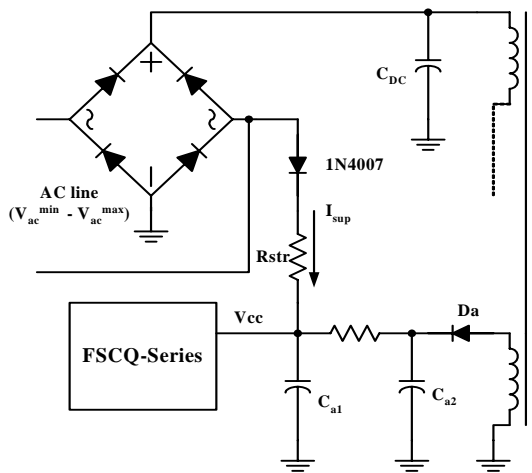
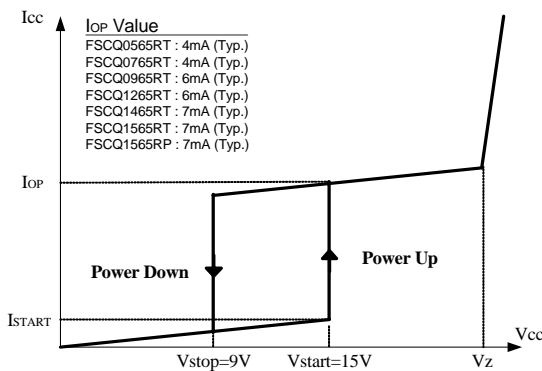

Figure 4. Startup circuit
Figure 5. Relationship Between Operating Supply Current and Vcc Voltage
1. **Startup:** Figure 4 shows the typical startup circuit and the transformer auxiliary winding for the FSCQ-Series. Before the FSCQ-Series begins switching, it consumes only startup current (typically 25uA). The current supplied from the AC line charges the external capacitor (Ca1) that is connected to the Vcc pin. When Vcc reaches the start voltage of 15V (V_{START}), the FSCQ-Series begins switching, and its current consumption increases to I_{OP}. Then, the FSCQ-Series continues its normal switching operation and the power required for the FSCQ-Series is supplied from the transformer auxiliary winding, unless Vcc drops below the stop voltage of 9V (V_{STOP}). To guarantee the stable operation of the control IC, Vcc has under voltage lockout (UVLO) with 6V hysteresis. Figure 5 shows the relationship between the operating supply current of the FSCQ-Series and the supply voltage (Vcc).